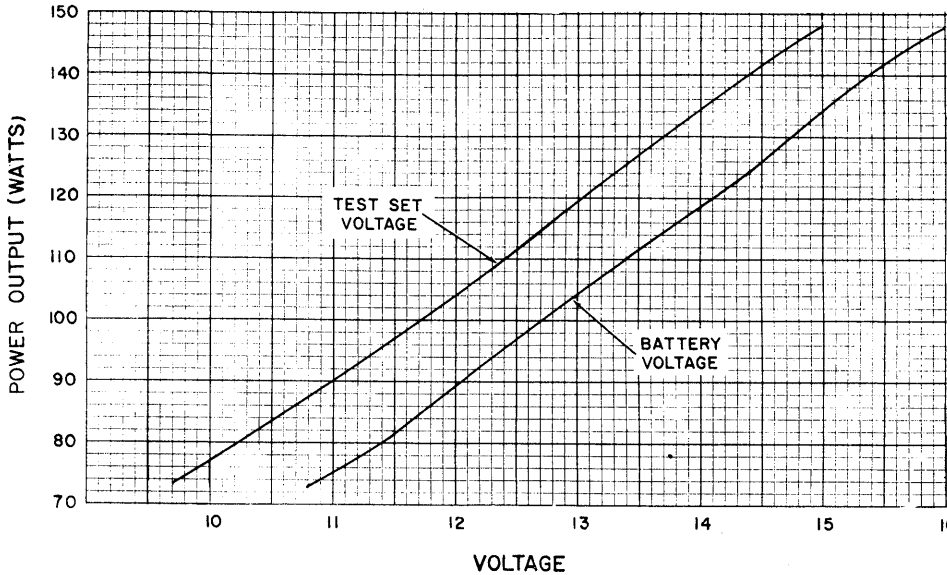

Figure 9 - Power Output Setting Chart
- B. To hold setting error to ± 0.35 PPM (which is considered reasonable for 2 PPM ICOMs): Maintain unit at 26.5°C ($\pm 5^\circ\text{C}$) and offset the oscillator as a function of actual temperature, by the amount shown in Figure 9.